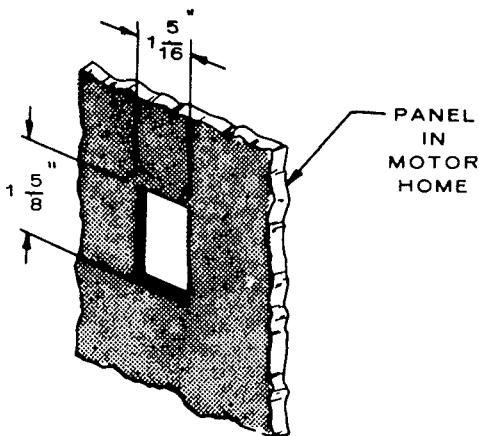

FIGURE 18. MOTOR HOME CUTOUT FOR STANDARD CONTROL PANEL
1. Select control location. Using Figure 18 or 19 as a guide, drill screw holes and cut hole to accommodate remote switch in dash panel.